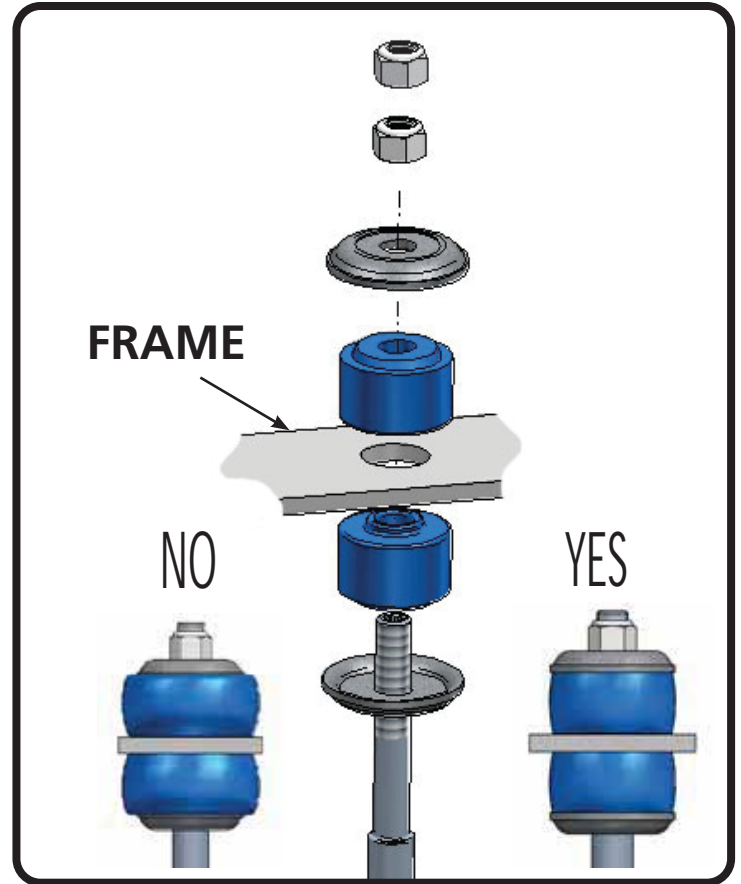

Figure 1
2. With the OEM shock removed, install the Ridetech shock. Remove the adjuster knob by loosening the set screw using the supplied Hex Key. Install a Bushing Support Washer on to the shock shaft followed by a Shock Stem Bushing (Figure 1).
NOTE: The Bushing should be tight, but not to the point that the bushing is bulging past the Support Washer (Figure 1).